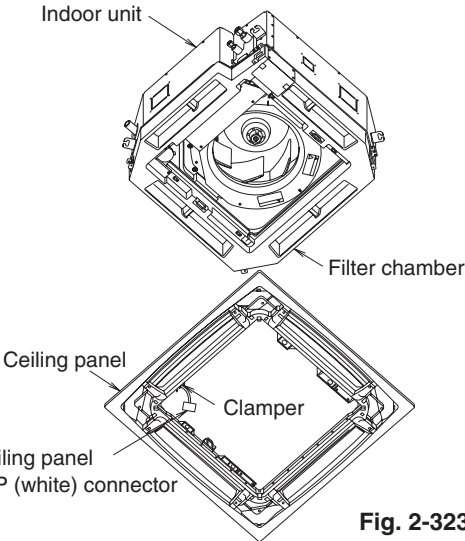

Fig. 2-323
(3) Installing Ceiling Panel (Fig. 2-323)